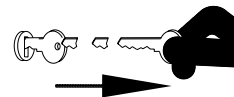

FIG. 2-19
3. Remove and discard shipping hardware for right-hand sideboards. (Fig. 2-19)